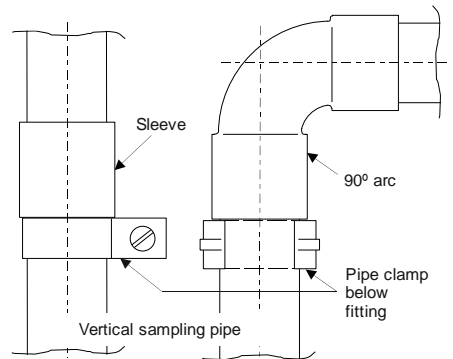

Fig. 24 Vertical sampling pipe
- For vertically arranged sampling pipe or parts thereof (e.g. in a riser or high-rack storage building) make certain that the tubes cannot slide down (fasten pipe clamps directly under fittings as shown in Fig. 24).